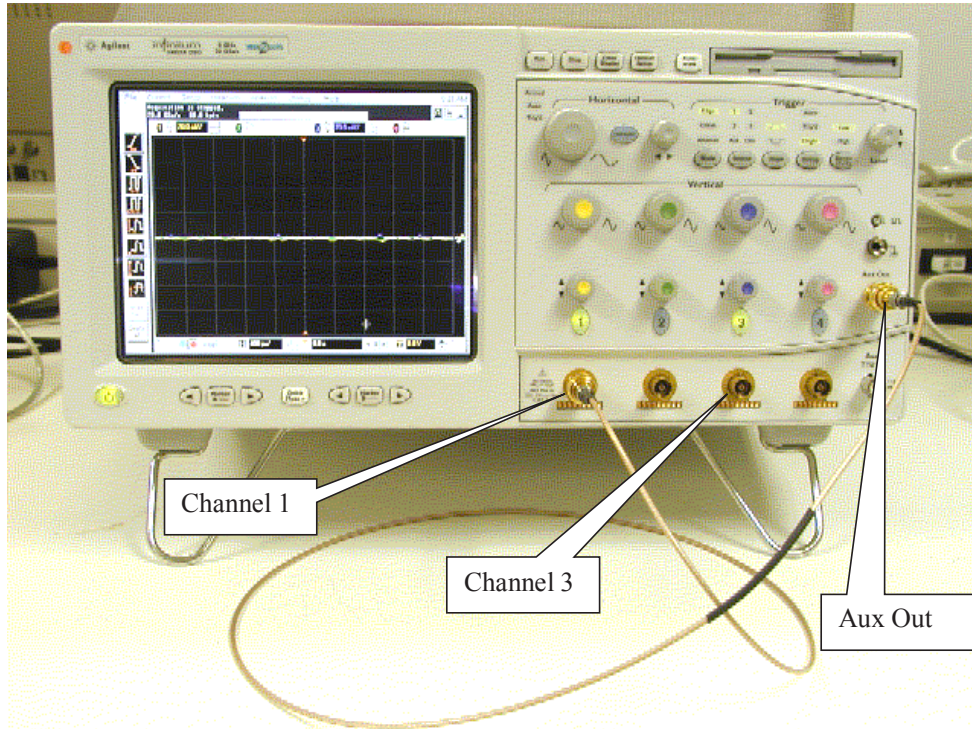

Figure 110 Vertical Input Calibration Connections (Cable on Channel 3 not shown).
- 1 Referring to the Figure 110 below, perform the following steps:
- 13 Referring to Figure 110 on page 377, perform the following steps: